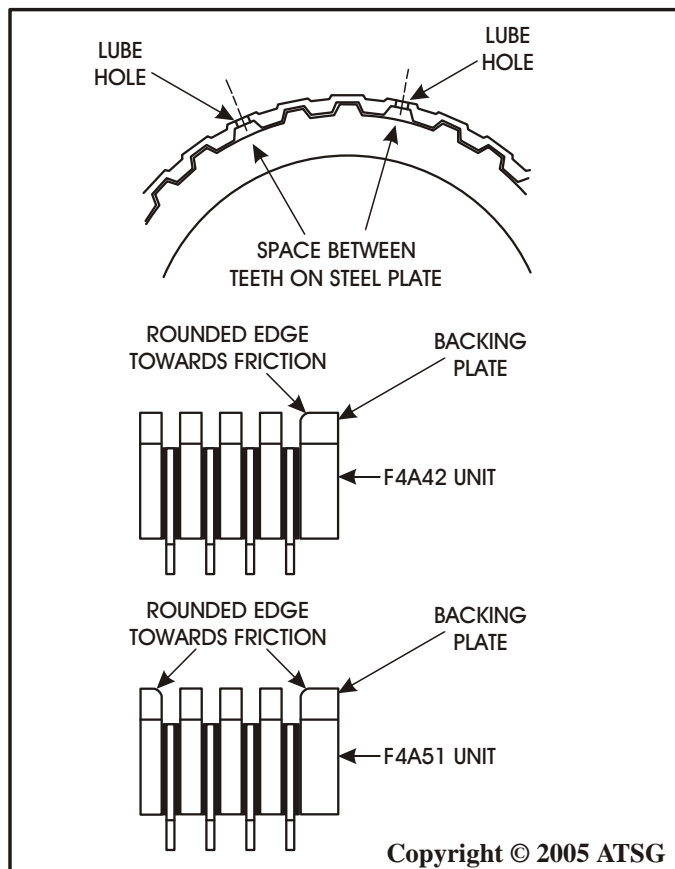

Figure 83
Note: The F4A51 unit has an apply plate that is .160\" thick and has a rounded edge that goes toward lined plate (See Figure 83).
14. Install the apply plate so that the places with no teeth are aligned with the lube holes in the retainer, as shown in Figure 83.
Note: Align the steel plates so that the places with no teeth are aligned with the lube holes in the retainer (See Figure 83). Friction plates should be soaked in ATF for 1 hour.